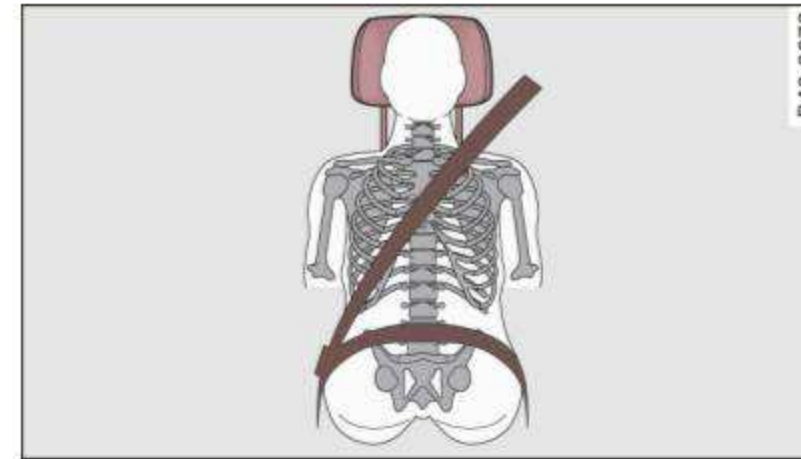
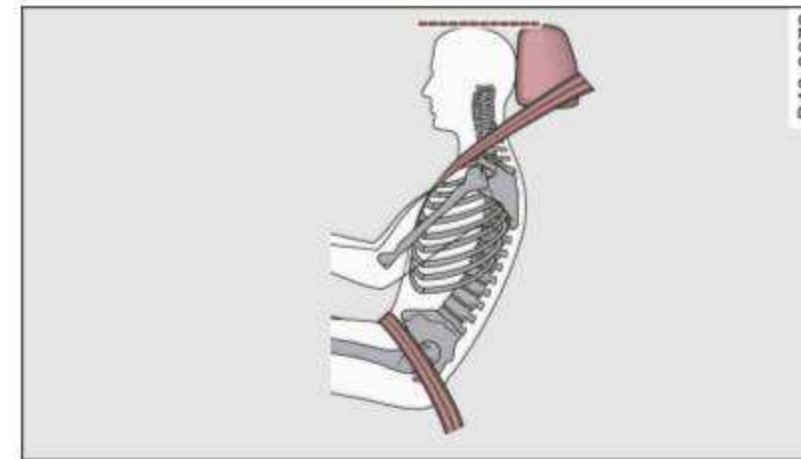

Fig. 87 Correctly adjusted head restraint viewed from the front
Fig. 88 Correctly adjusted head restraint viewed from the side
- Adjust the head restraint so that the upper edge of the restraint is level with the top of your head, but no lower than eye level and so it is as close to the back of your head as possible ⇒ *fig. 87* and ⇒ *fig. 88*.